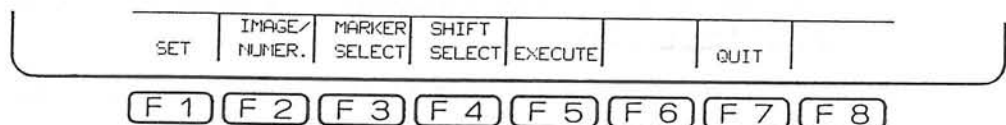

Fig. 4-30 Blank Size Function Keys
- 1) Press the function key [F2] (IMAGE/NUMER.) shown in Fig. 4-30 until INPUT NUME. is displayed at the lower right portion of the screen.
- 1) Press the function key [F2] (IMAGE/NUMBER.) shown in Fig. 4-30 until INPUT IMAG. is displayed at the lower right portion of the screen.